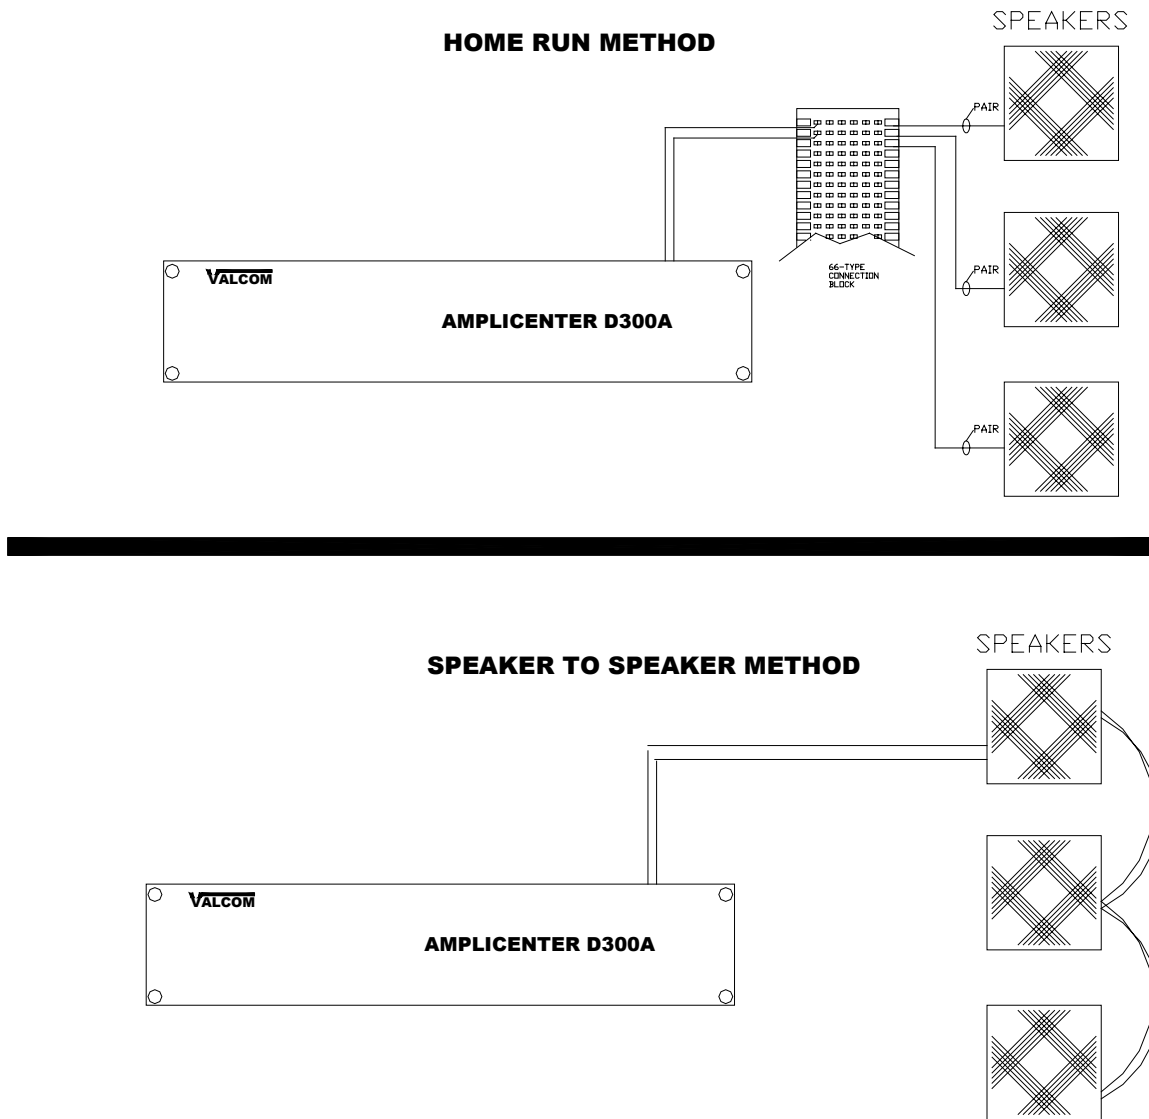

Figure 11. Speaker Run Methods.
Refer to sample wiring diagrams (page 9 - Figure 11). Consult the 70V wire gauge guide (page 4 – Figure 5) for more specific information.
2. Connect each speaker to the appropriate home run or speaker-to-speaker wiring scheme as shown on the wiring plan (see Figure 11).